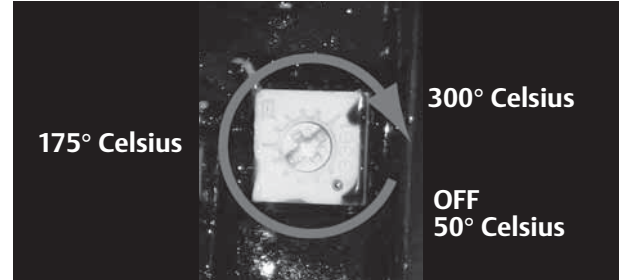

FIGURE 2
10. Adjust the temperature with the temperature adjustment. The temperature adjustment is located on the electrical board with a 270° turn adjustment. This goes from 50° Celsius (122°F) to 300° Celsius (572°F). See Figure 2.